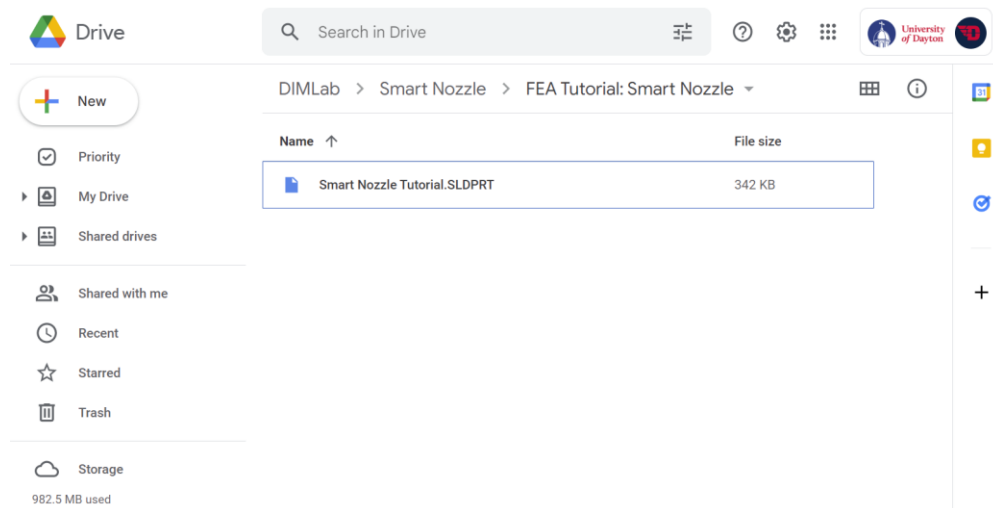

Figure 1: Download Smart Nozzle Part
- A. The nozzle design that will be used to complete this tutorial is a simple two chamber design created with thick walls to accept higher pressurization. This model can be downloaded from the DIMLab Drive by following DIMLab → Smart Nozzle → FEA Tutorial: Smart Nozzle and downloading the file titled *Smart Nozzle Tutorial.SLDPRT* (Figure 1).